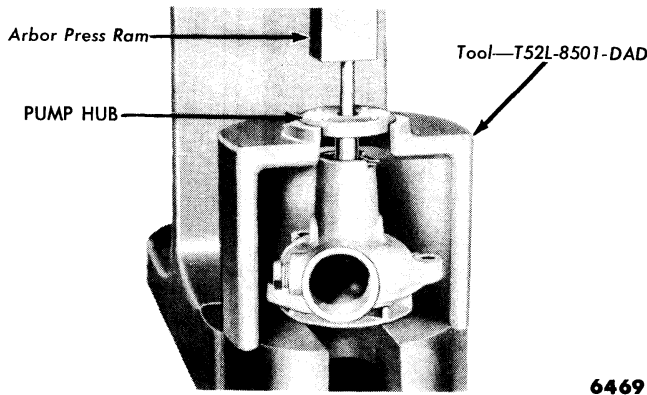
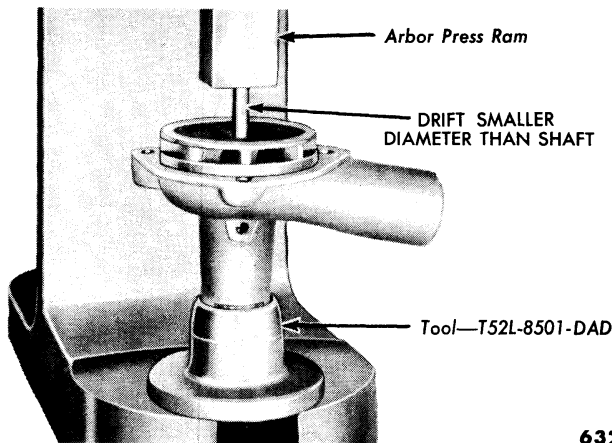
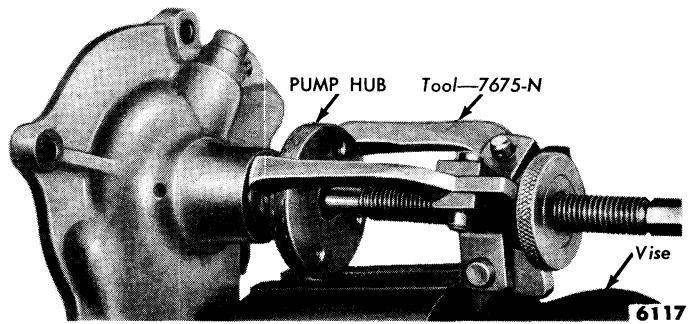

Fig. 76—Hub Removal
Fig. 77—Pressing Out Shaft—Typical
Fig. 83—Hub Removal
(2) **DISASSEMBLY.** Press the shaft out of the hub (fig. 76). Remove the snap ring retaining the bearing in the housing. Press the shaft out of the impeller and the pump body (fig. 77).
a 3 or 4 jaw-type gear puller (fig. 83). Remove the snap ring retaining the bearing in the housing. Press the shaft out of the impeller and the pump body (fig. 77).